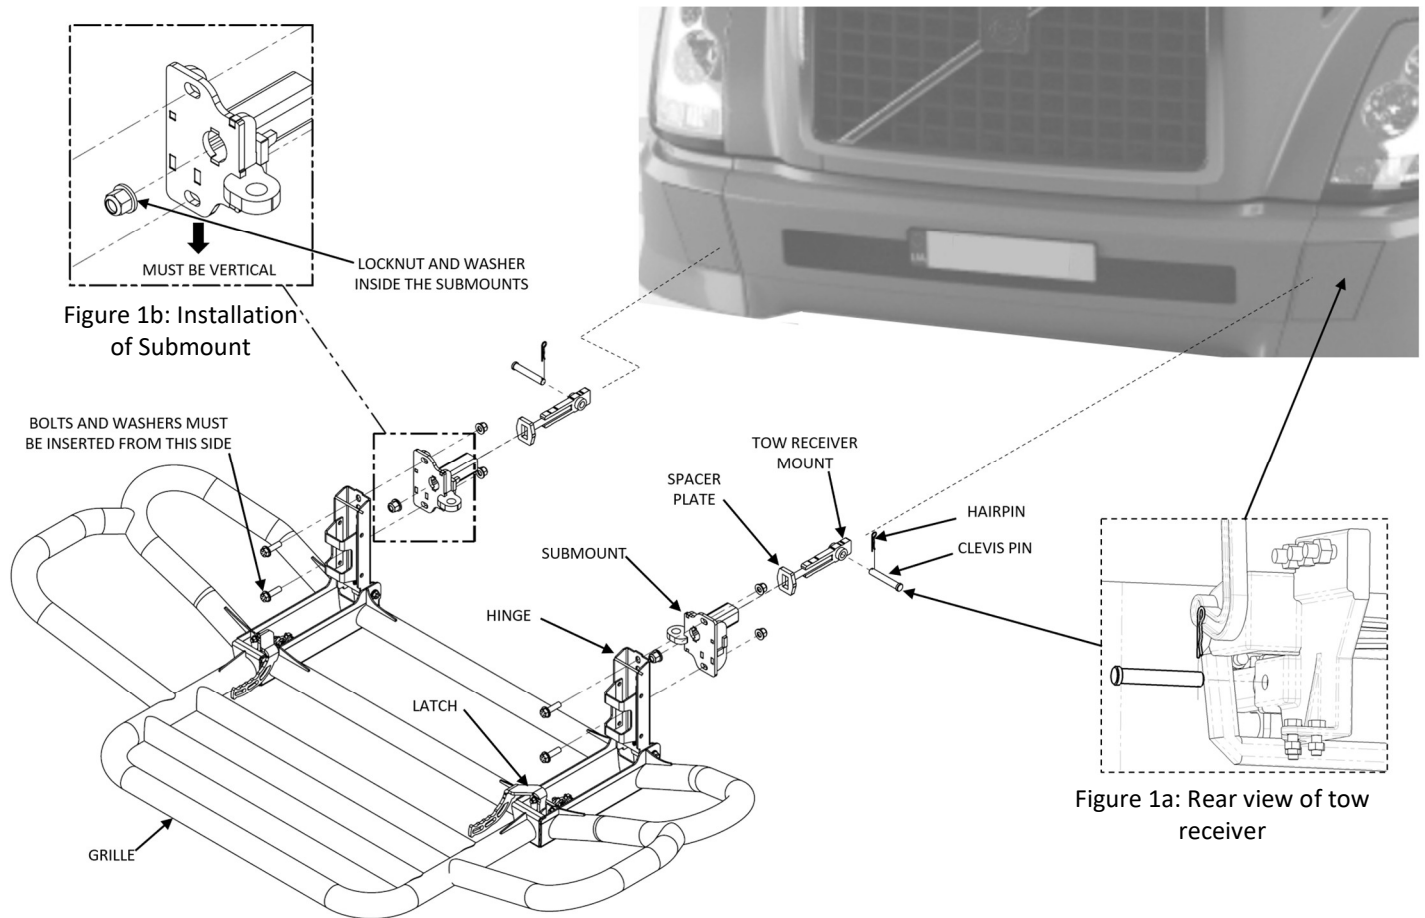

Figure 1: Grille Guard Installation (Your Grille Guard may not be exactly as shown)
4. Open driver side Hinge and lift to driver side Submount. Hand tighten upper hardware shown in Figure 1 (**do not fully tighten**). Repeat for passenger side. **Ensure bolts are inserted from front (Hinge side) as shown in Figure 1.**